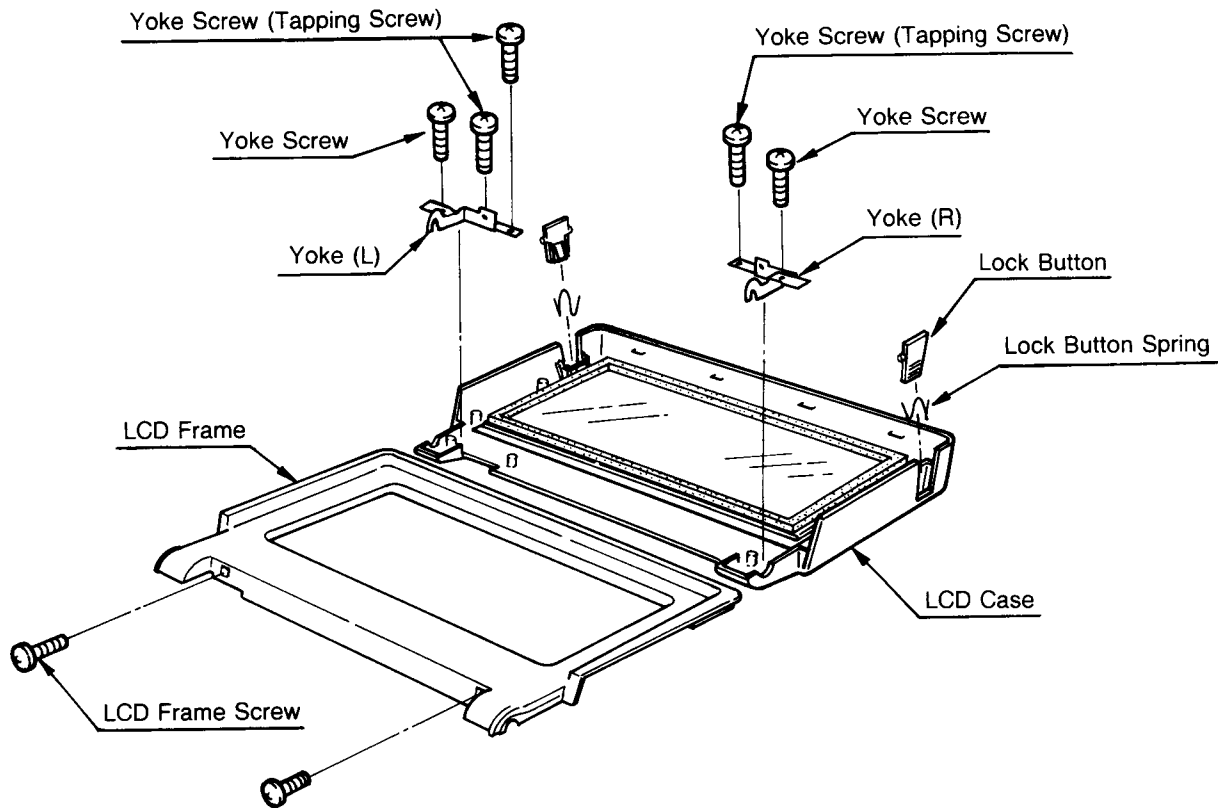

Figure 2-8. Exploded View of LCD Assembly
- (3) Turn over the Top Cover and remove two LCD Frame screws on both sides. (Figure 2-8)
- (4) Remove the LCD Frame, then remove two Lock Buttons and two Lock Button Springs on both sides.
- (5) Remove the Yoke screws (three at the left, two at the right) and remove the Yokes.